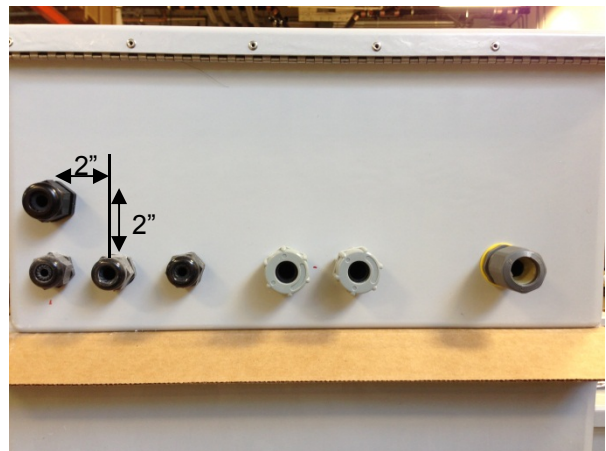

Fig. 6
- If the controller has a string monitor board connection drill a hole 7/8" (22 mm) in diameter 2" (5 cm) above and 2" (5 cm) to the right of the east branch motor CAN cable entry for the string monitor cord grip (Fig. 6)